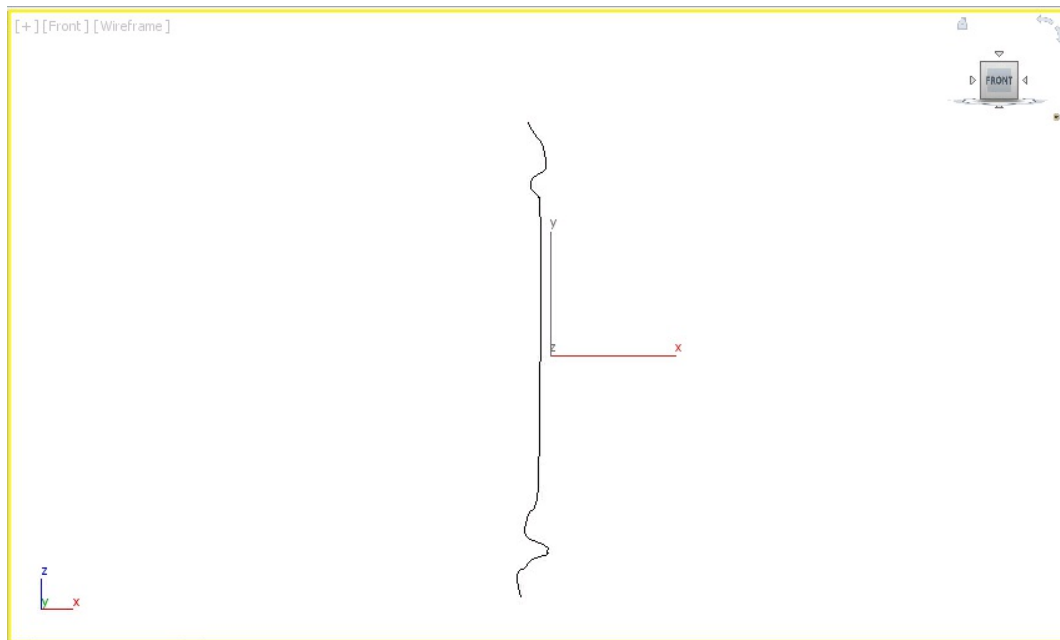

Figure 6-58 *The line spline created for glass*
3. Click at the bottom middle point of the Front viewport to create the first vertex or the start point of the line spline. Now, create a curve, refer to Figure 6-58. Next, right-click to end creating the line spline.
To get the shape shown in Figure 6-58, you may need to modify the shape of the line spline by following the step given next: